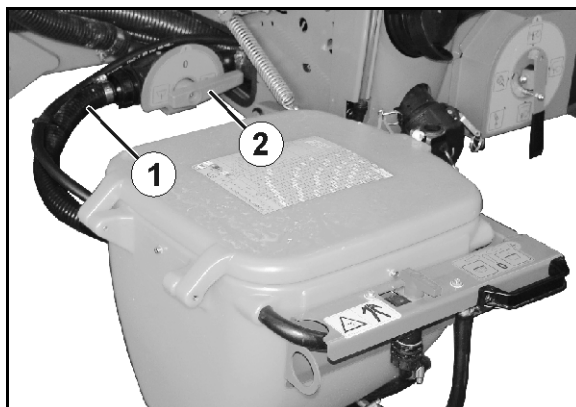

Fig. 154
8. Detach the hose (Fig. 154/1) from the switch tap **F**.
Swivel the switch tap **F** (Fig. 154/2) to position  tion